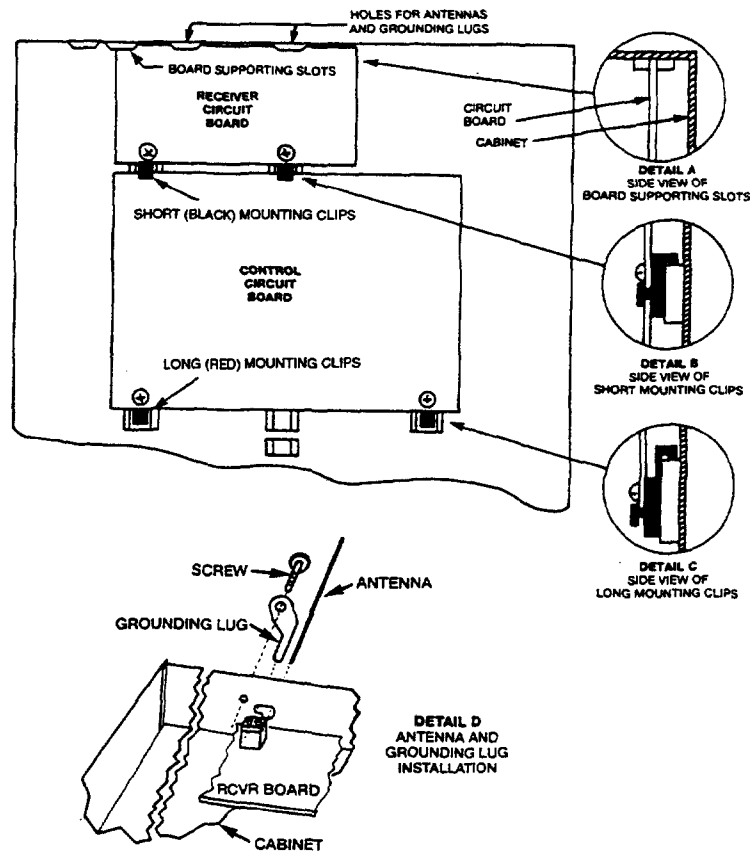

Figure 3. Mounting The PC Board And RF Receiver Together In The Cabinet
1. Hang two *short* (black) mounting clips (provided with receiver) on the raised cabinet tabs, as shown in Detail B in Figure 3.
2. Insert the top of the receiver board (removed from its own case as described in *its* instructions) into the slots at the top of the cabinet, as shown in Detail A in Figure 3. Make sure that the board rests on the correct row of tabs, as shown.
3. Swing the base of the board into the mounting clips and secure it to the cabinet with the accompanying screws (see Detail B in Fig. 3).